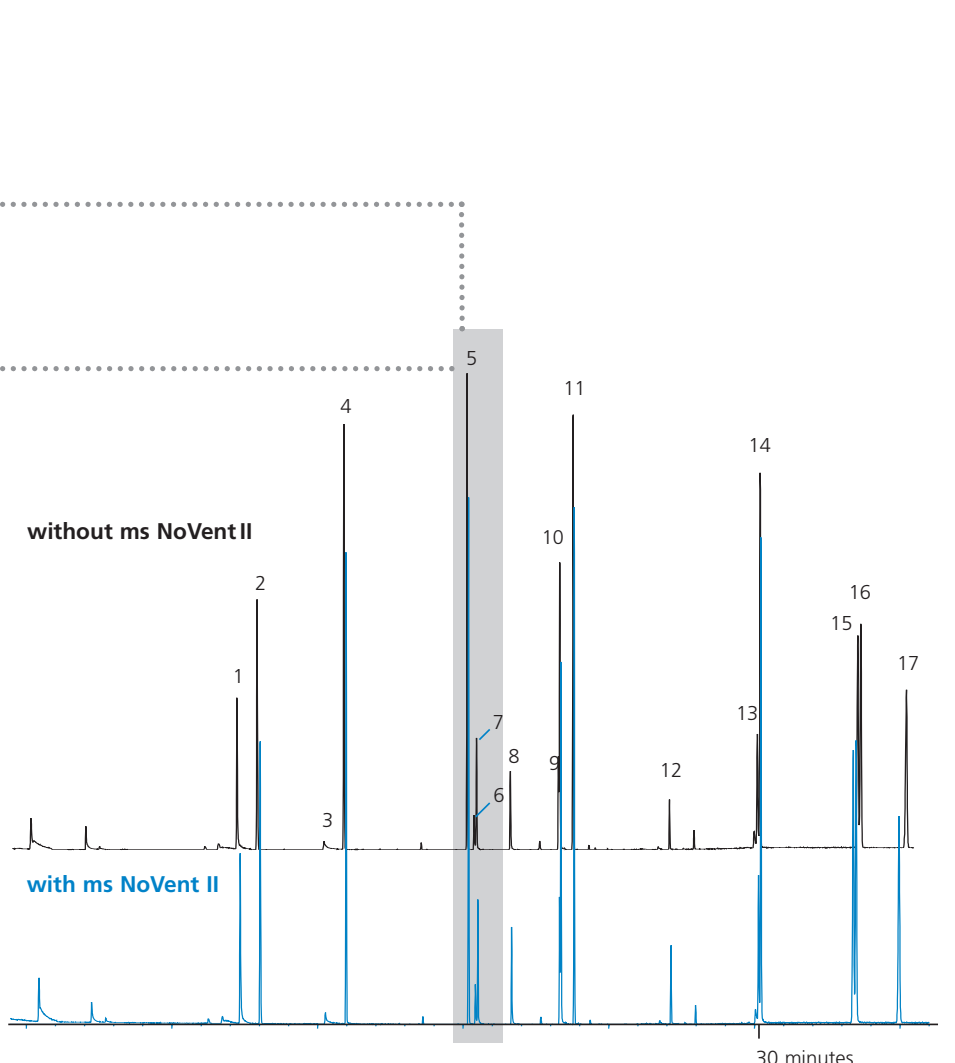

Figure 4.
To prove the chromatographic integrity of the ms NoVent II, a custom test mix containing the most difficult compounds from the 8270C method was used. Figure 4 shows this test mix chromatographed both with and without the ms NoVent II at a level of 5ng on-column, a factor of two lower than required.
One of the most difficult compounds in the 8270C method is 2,4-dinitrophenol (peak 6), routinely achieving a RRF of 0.05 to 0.10, at a level of 10ng on-column. Maintenance of the chromatographic integrity of this peak with the ms NoVent II connected is evident in Figure 4.
- The result of this attention to detail is unsurpassed chromatography INERTNESS. To prove this, the ms NoVent II has been tested using one of the most difficult MS analyses available, 5ng of USEPA 8270C with splitless injection. No measurable loss or interference was identified with difficult to analyze compounds (2,4-dinitrophenol, 4-nitrophenol, pentachlorophenol, 4-aminobiphenyl and benzidine) – see Figure 4.